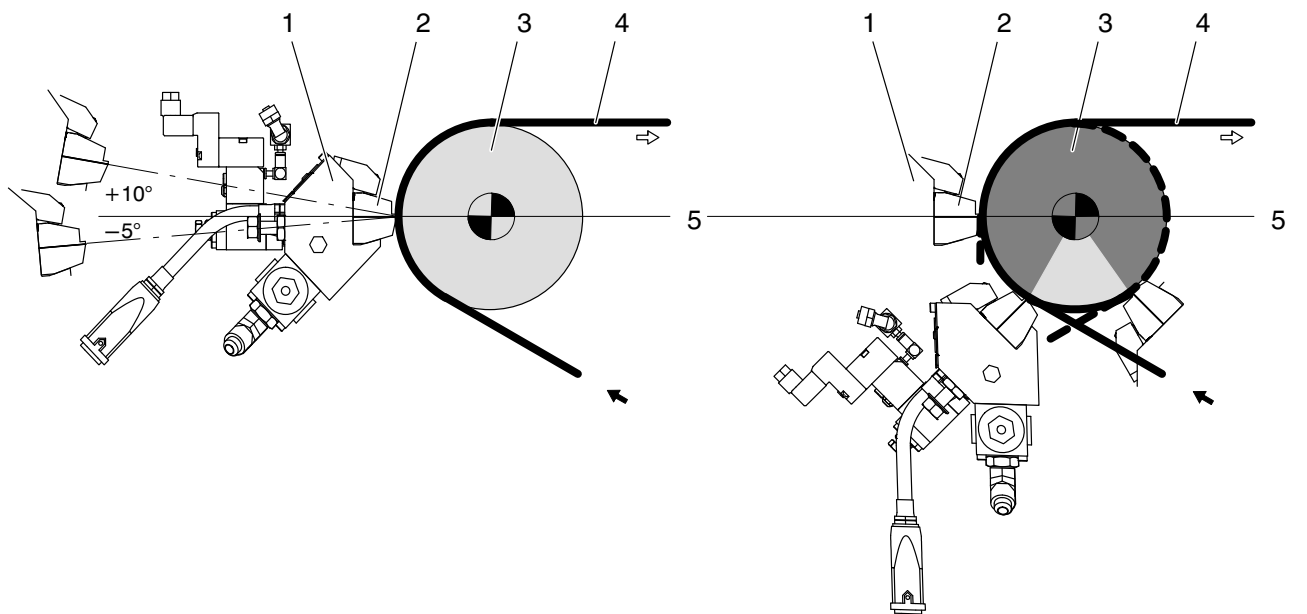

Fig. 4-1
The contact line (5) should be at the line at which the substrate (4) runs onto the roll (3). The nozzle always has contact to the substrate (Refer to Fig. 4-1).
Ensure that contact is only on the dark gray segment of the coating roll (Fig. 4-1, right); otherwise the applied material could drip.